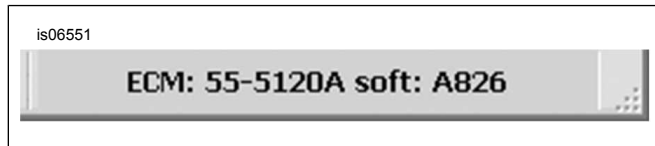

Figure 14. Communicating
- d. See Figure 14. The communication status box in the lower-right corner of ProTune II will illuminate green to show that ProTune II is communicating with the ECM. If it does not illuminate green see the Basic Troubleshooting section below.